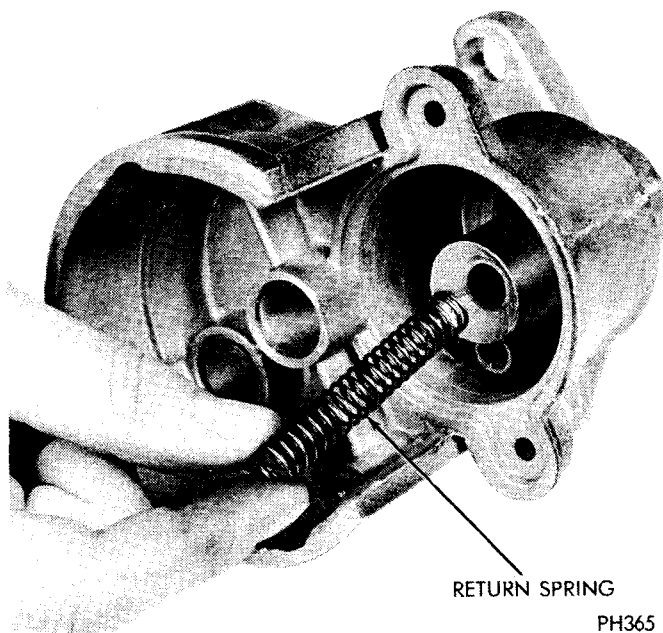

Fig. 13—Removing Return Spring
(14) Remove return spring from inside of solenoid moving core, (Fig. 13).